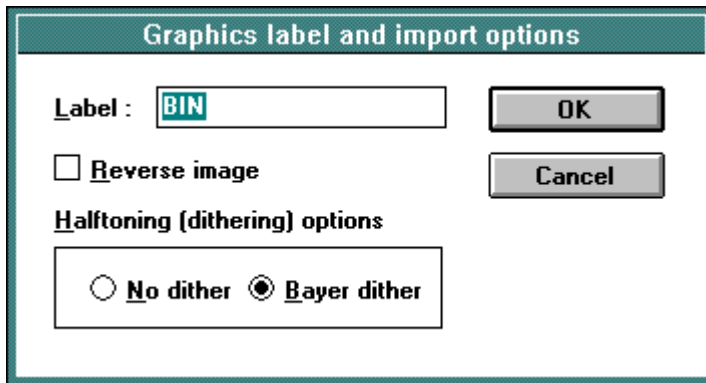

Figure 10-1
3. Select *Import Bitmap Graphics* from the *Graphics* menu. This will open a dialog box that allows the user to select a file. Select the filename that is to be used and click on *OK*. Another dialog box, shown in Figure 10-1, will open that allows the user to label the bitmap and select import options.